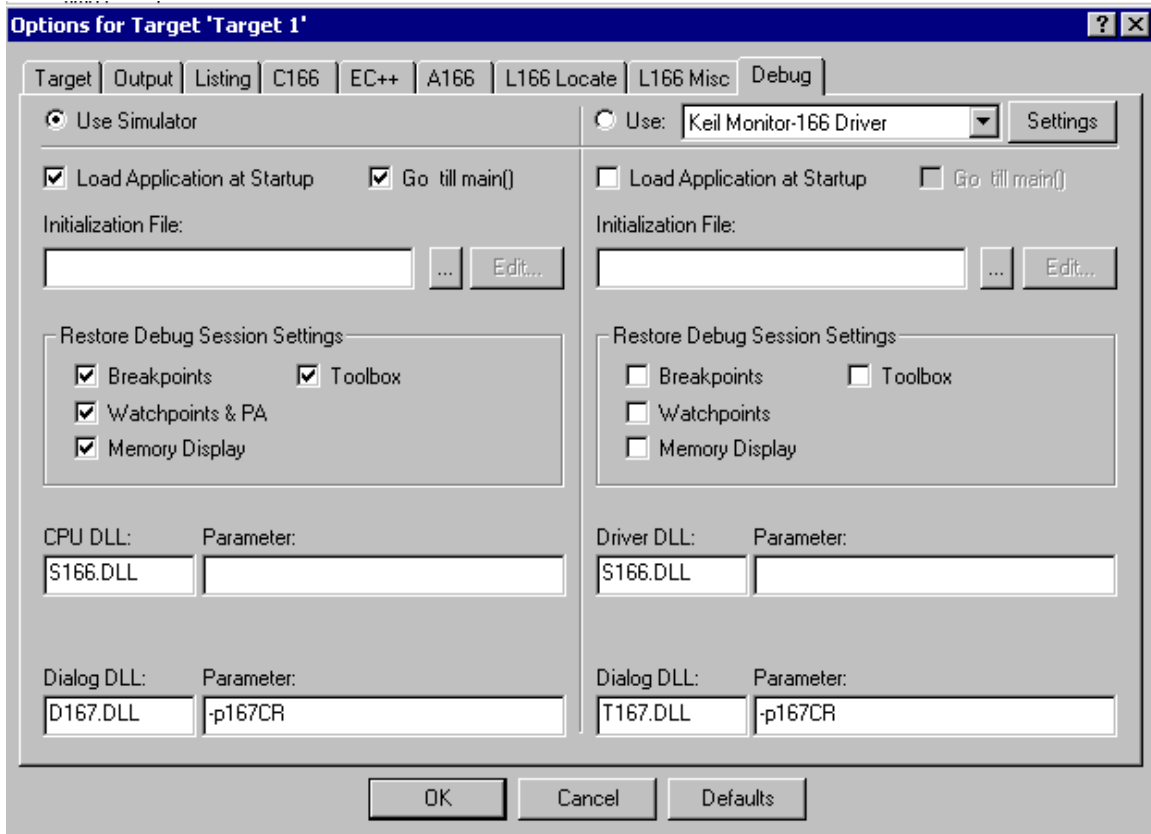
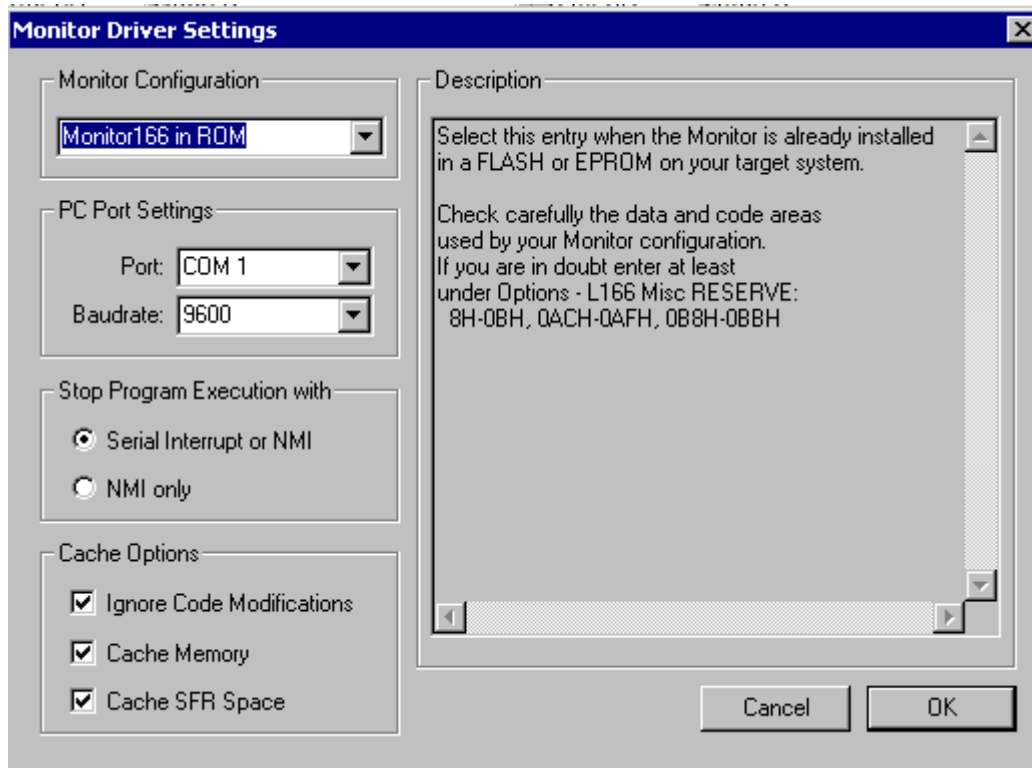

Figure 7. Choosing the monitor
Figure 8. Incorrect monitor
1. Click on the **Debug** tab. You will see the screen in figure 7.
Once you have told Keil to use the monitor, you have to select the correct monitor for your board. Click the **Settings** button shown in figure 7. You will see the Monitor Driver Settings window (see figure 8).